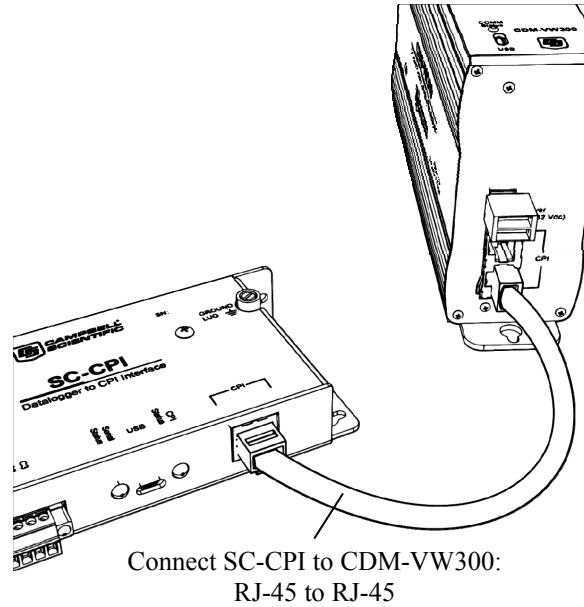

FIGURE 6-10. Connecting the CPI ports of the SC-CPI and CDM-VW300
- b. As shown in FIGURE 6-10, connect the CDM-VW300 to the SC-CPI. Reference Section 7.7.3, *CDM-VW300 to SC-CPI Connection*, and Appendix B, *SC-CPI Datalogger to CPI Interface*.